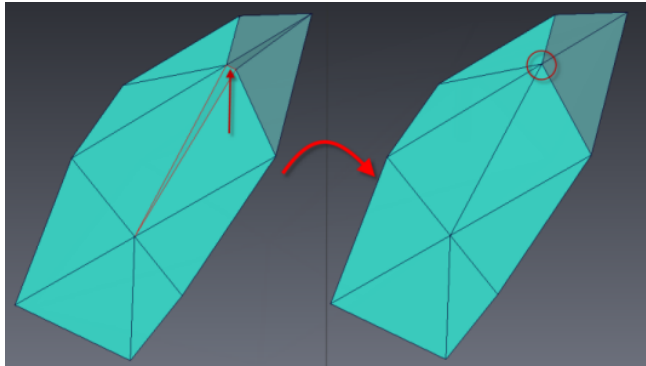

Figure 7.25: Editing a triangle with the *Contract Edges* tool to improve its quality.
- Click on the edge of the triangle you want to remove (see Figure 7.25).